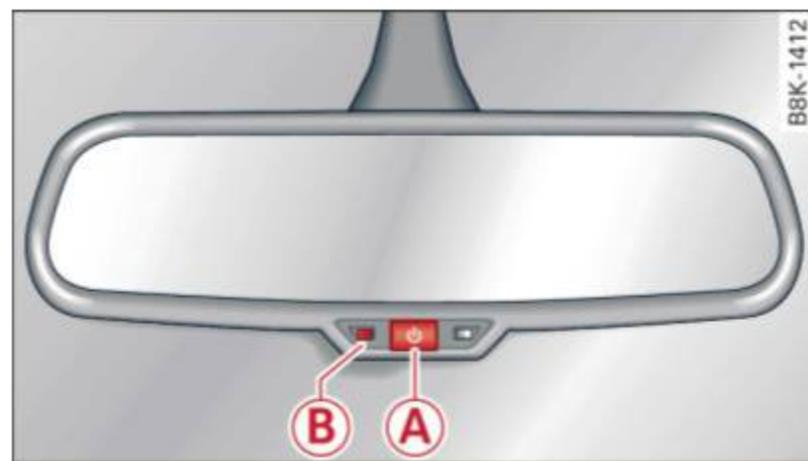

Fig. 47 Automatic dimming rearview mirror*
- ▶ Press the button  ⇒ *fig. 47*. The indicator light  turns on. The rearview and exterior* mirrors dim automatically when light shines on them, for example from headlights on a vehicle to the rear.